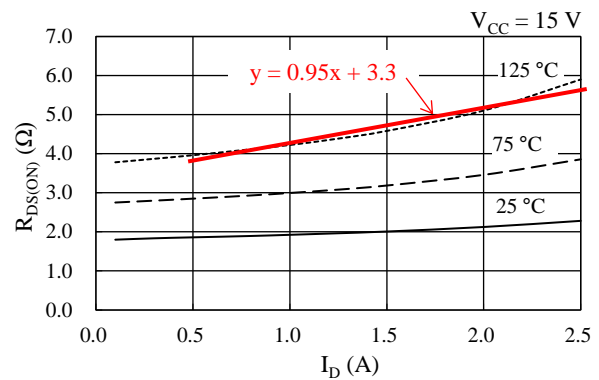

Figure 16-1. Linear Approximate Equation of $R_{DS(ON)}$ vs. I_D
Steady-state loss in a power MOSFET can be computed by using the $R_{DS(ON)}$ vs. I_D curves, listed in Section 17.3.1. As expressed by the curves in Figure 16-1, a linear approximation at a range the I_D is actually used is obtained by: $R_{DS(ON)} = \alpha \times I_D + \beta$. The values gained by the above calculation are then applied as parameters in Equation (8), below. Hence, the equation to obtain the power MOSFET steady-state loss, P_{RON} , is: